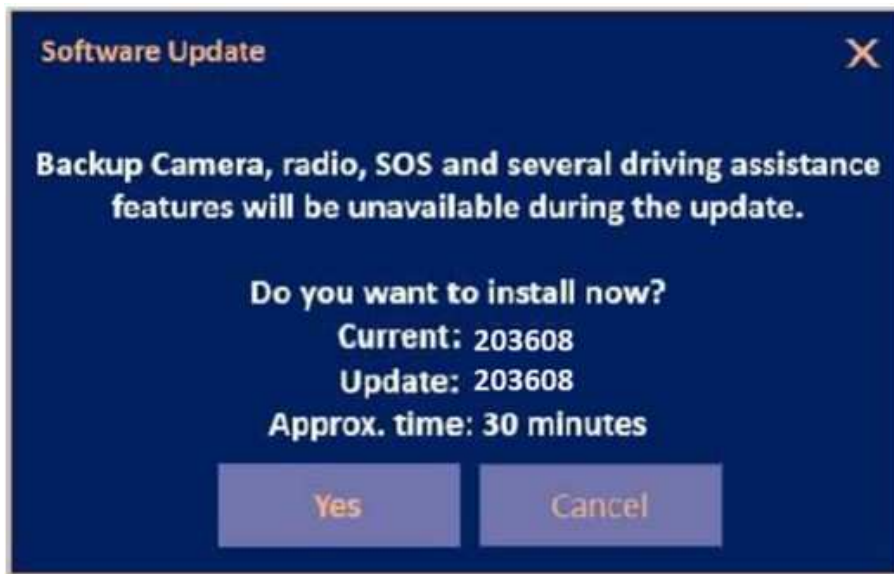

Fig. 7
15. Verify the screen states the following: "Current: XXXX.XX Update to: 2036.08 Approx time: 30 minutes". Is the radio current software level at or higher than 2036.08?(Fig. 7)
16. Press “Yes” to start the update. The software update takes approximately 30 minutes to complete (Fig. 7) .